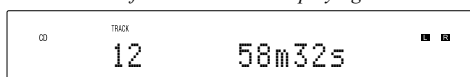

Figure 8
2. Press the OPEN/CLOSE Push-button and the disc tray will close. Refer to figure 7. Loading of the CD Disc's Table of Contents (number of tracks and total playing time) will be indicated on the Front Panel Display. Refer to figure 8.